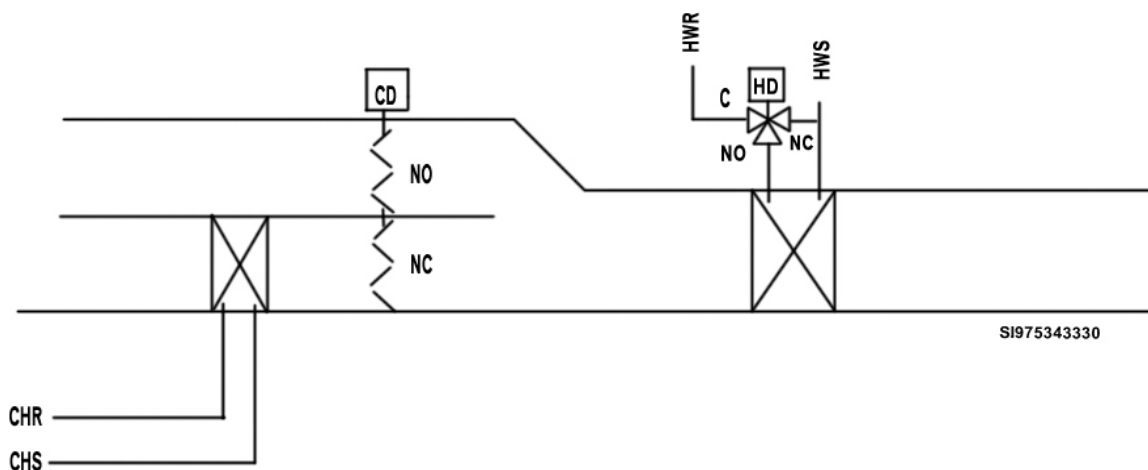

Figure 3-33. Coil arrangement for a reheat system.
A typical reheat subsystem is shown in figure 3-33. The type of coil subsystem shown is called face and bypass (air either passes through the face of the coil or the bypass damper). There is constant waterflow through the coil while maintenance of the water temperature is through the chiller control. A set of dampers (CD) mixes the air that passes across the coil with the air that flows through a bypass deck. This mixed air passes through the hot-water (HW) reheat coil. The reheat coil is operated by a three-way valve that forces the hot water to bypass the coil as heating requirements decrease.